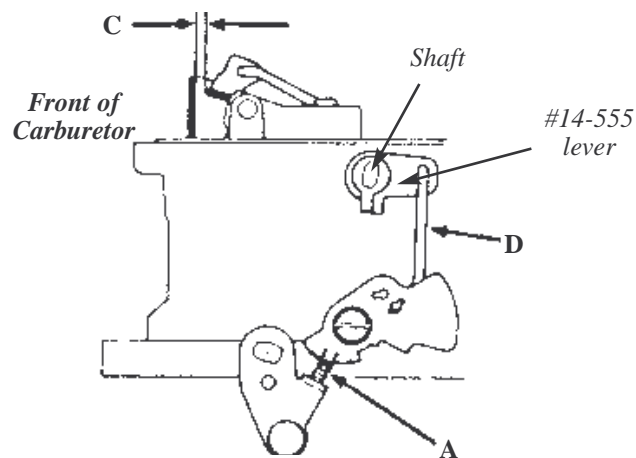

FIGURE 7
- Place the new lever #14-555 on the new shaft and slide this subassembly into the airhorn. The lever should be located on the shaft using Figure 7 as a guide. Using the hair clip, reattach the fast idle linkage rod D.
To adjust the fast idle linkage (Figure 7) place the fast idle screw A between the two notches on the cam. Close the choke valve as far as possible without forcing it. The dimension C should be 3/64" between the choke valve and air horn. To adjust this dimension, bend rod D.